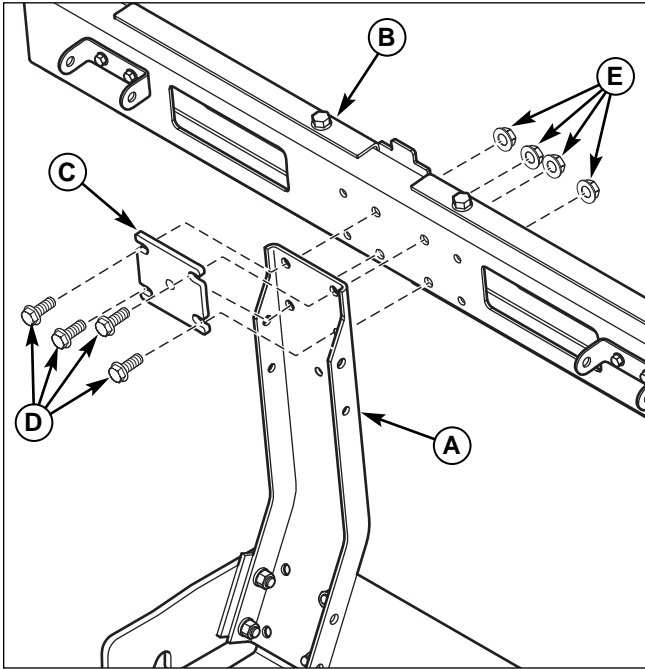

Figure 10. Install Bag and Cover Support
1. Install the bag and cover support (B, Figure 10) to upright support (A) using reinforcement plate (C) and 3/8-16 x 1 capscrews (D) and 3/8-16 locknuts (E) as shown.